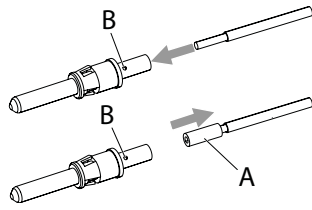
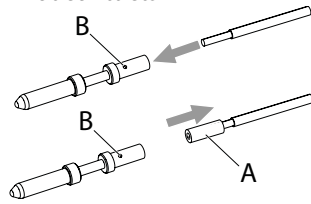

Fig. 10: Pilot contacts
Fig. 12: Auxiliary contacts
1. Push the bare cable braid into the connection area of the contact (*Fig. 10* or *Fig. 12*).
1. Push the reducing bushing (A) as shown in *Fig. 10* or *Fig. 12* onto the bare cable braid and push the cable braid together with the reducing bushing into the connection area of the contact.
2. Push the cable braid (if necessary including the reducing bushing) into the contact until it is visible in the checking hole (*Fig. 10/B* or *Fig. 12/B*)